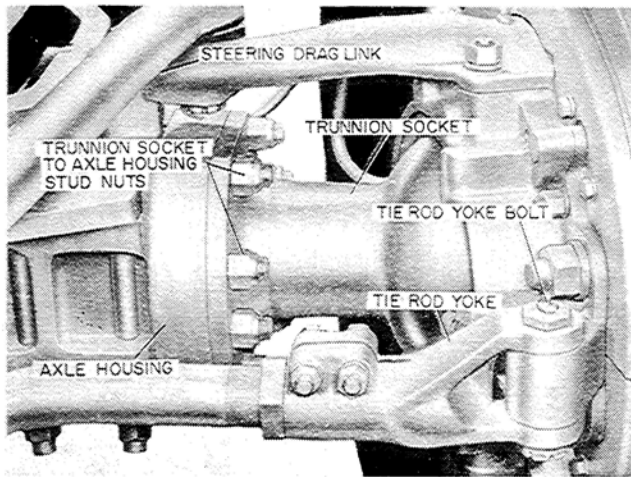

Figure T-21. Steering Yoke
1. Disconnect the tie rod yoke by removing the tie rod yoke bolt, Figure T-21.
2. Disconnect the rear steering drag link, Figure T-21.
4. Remove the trunnion socket to housing stud nuts shown in Figure T-21